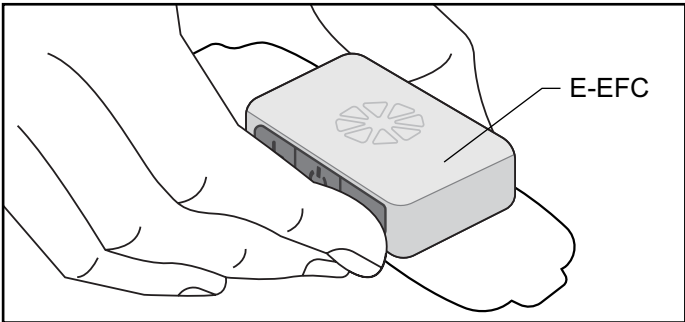

Figure 6-4: Grasp the edges of the E-EFC attached to the Gel Electrode.
3. Using the index finger and thumb, grasp the edges of the E-EFC attached to the Gel Electrode so the gel pads face downward. See Figure 6-4.